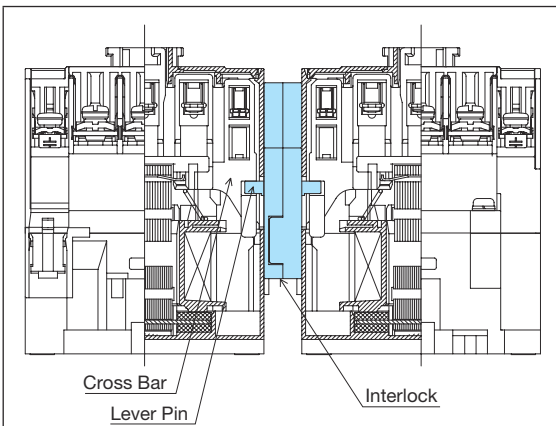

Fig. 1. Structural and Operational Diagram (T10 to T80)
#### (1) Open State (Fig. 1, 2(a), 3(a))